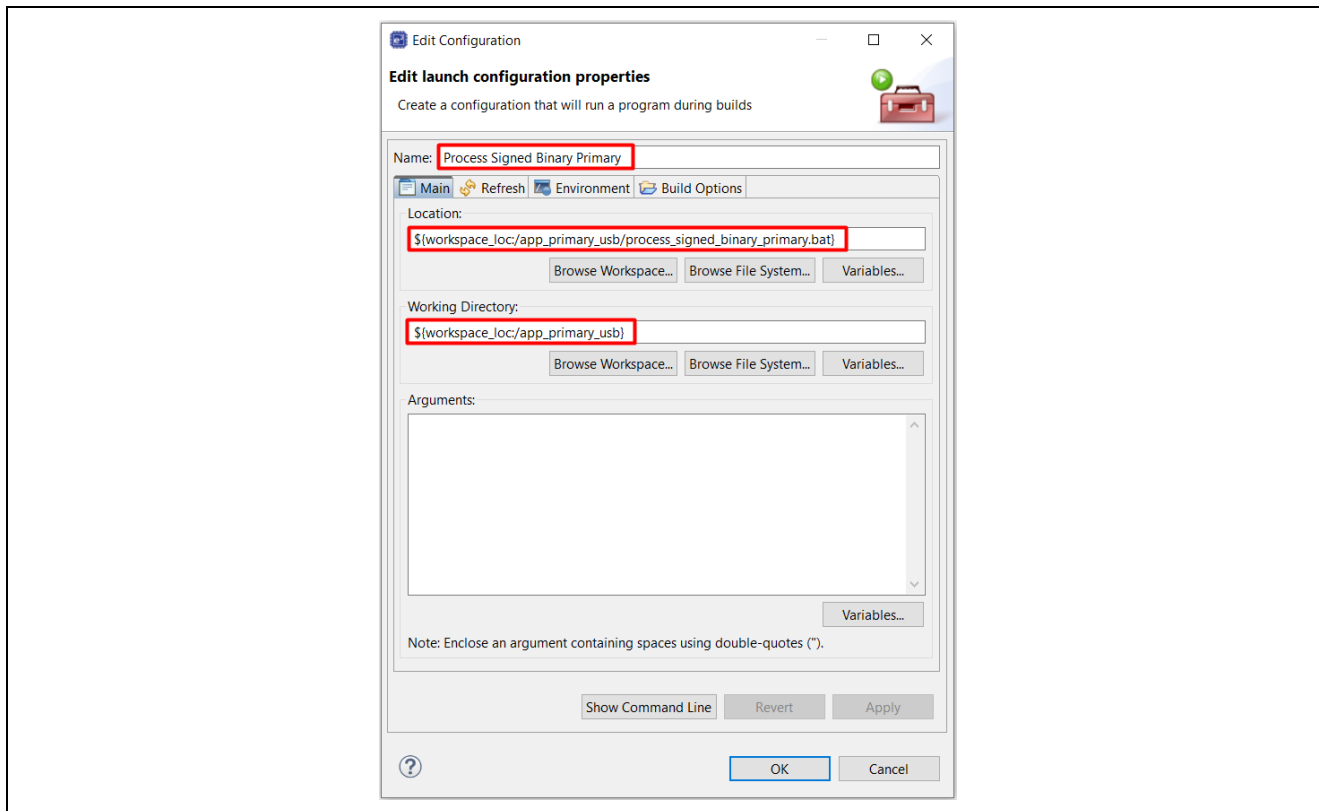

Figure 48. Configure the Custom Builder for the Primary Application
2. Follow section 4.7 to create the new **Builder**. The finished configuration should look like Figure 48.